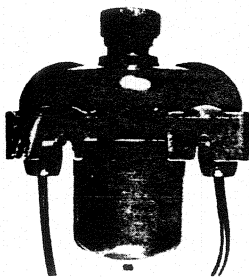
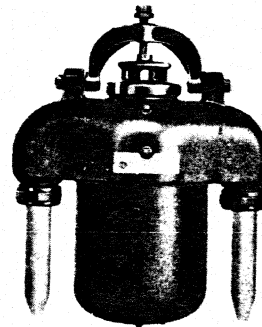

Fig. 1. Vented cutout, 100, 200 and 300 amperes, 5.2 kv; 200 amperes, 7.8 kv and 15 kv
Fig. 3. Sealed cutout, 100 and 200 amperes, 5.2 kv
1. Follow these general instructions when installing the vented (Fig. 1 or 2) or the sealed-type cutouts (Fig. 3).